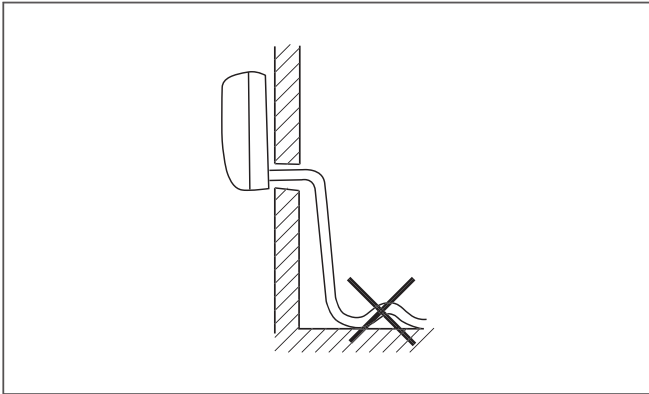

Fig. 9.3 Avoid crimping.
- Avoid installing the condensed water pipe with crimping (see Figure 9.3).